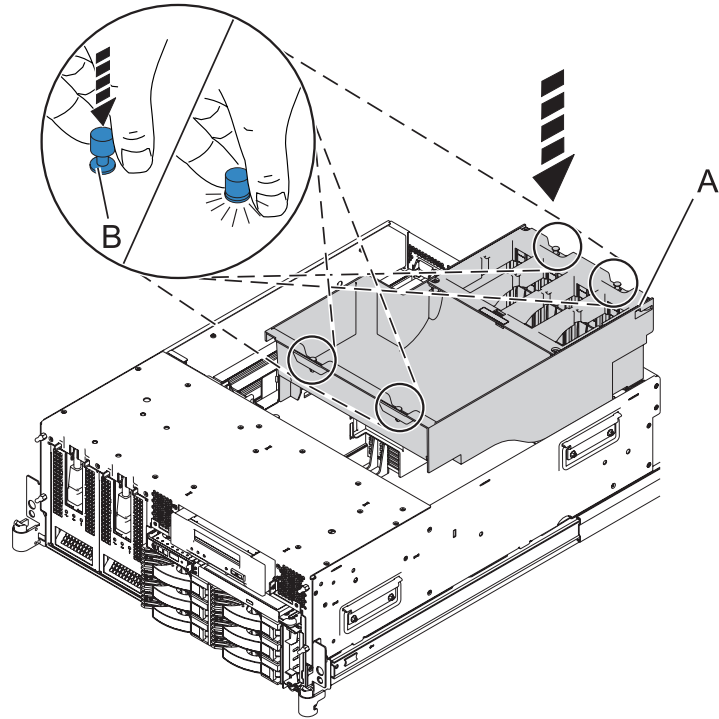

Figure 24. Replacing the air baffle
7. Replace the air baffle by inserting the baffle and securing the four locking tabs as shown in Figure 24 on page 35.